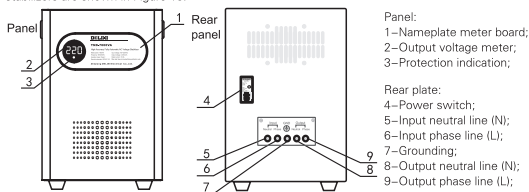

Figure 15 TND-7kVA~10kVA
3.4.3. The outline and wiring of the TND-7~10kVA high-precision fully automatic AC voltage stabilizers are shown in Figure 15.